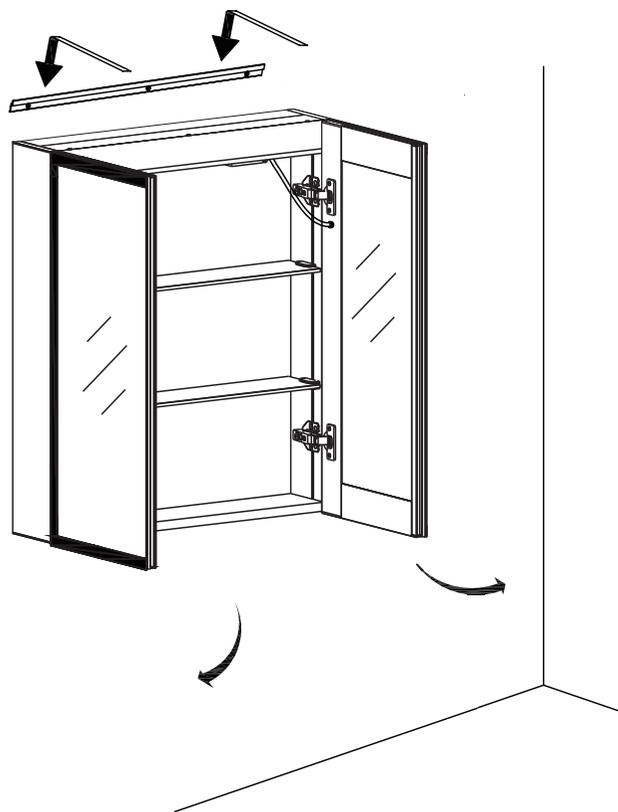

Fig. 7
- 2.3 Finally, turn on the main switch, and test if the switch works normally (Fig. 7)